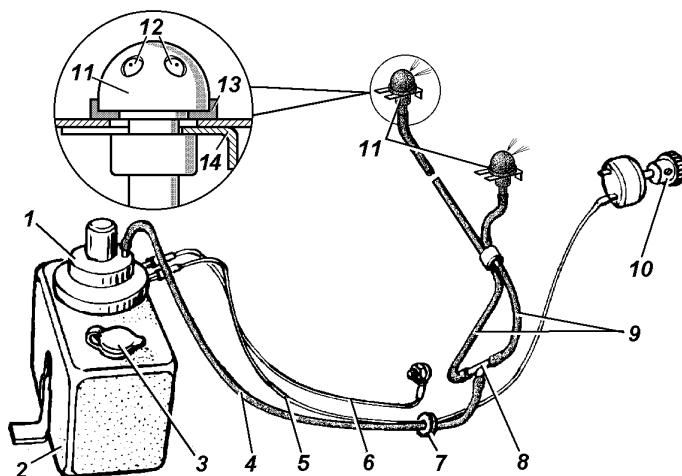

Fig. 86. Windshield Washer:
**Washer** (Fig. 86). The electric washer is intended for high-speed cleaning the windshield.